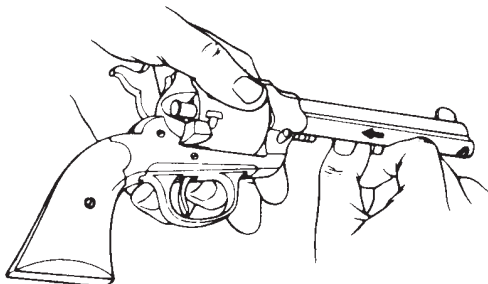

FIG. 3
4. To eject the empty cartridge cases, move the hammer back to the loading position, open the loading gate, and turning the cylinder by hand, bring one of the chambers into line with the ejector rod. The ejector is then moved rearwardly by means of the thumb-piece on its forward end so that it will slide through the chamber and push out the fired cartridge case (Fig. 3).